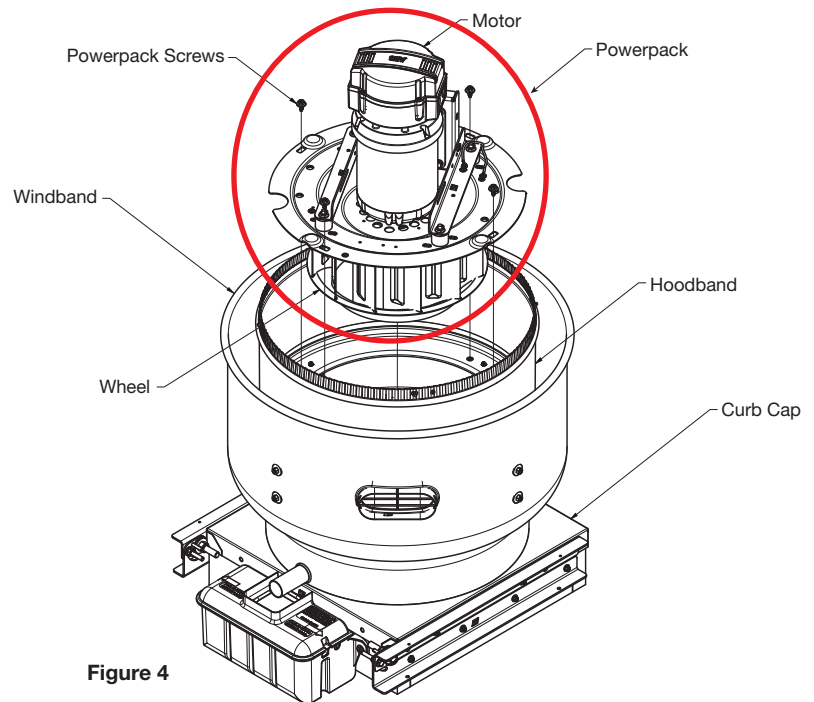

Figure 4
8. Pick up the new powerpack and place into the housing in the same orientation as the previous one. Figure 4.